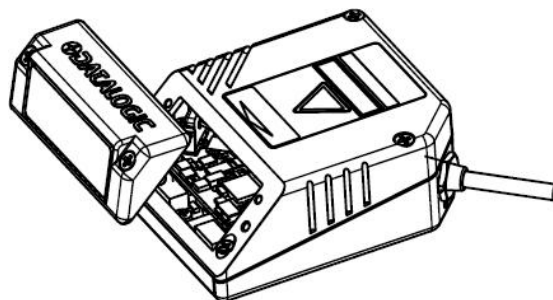

Figure 29 – Remove Scanning Window
- 2) Remove the scanning window from the scanner (see Figure 29).